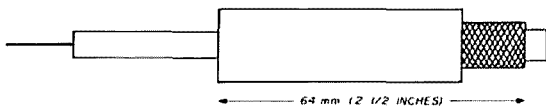

fig. 3. Construction details of the coaxial cable input capacitor (C1 in fig. 2).
**Input coupling.** The only unusual component is C1, the input-coupling capacitor. Because the rf voltage levels are quite high and the required capacitance so low, a suitable commercial component would be difficult to find. An inexpensive substitute is a piece of coaxial cable. A typical piece of 50-ohm coax will have a capacitance of 1 pF/cm (30 pF/ft), so that a 6.3-cm (2.5-inch) center conductor-shield overlap will provide 6 picofarads of capacitance. A sketch of the coaxial capacitor is shown in fig. 3. The length of